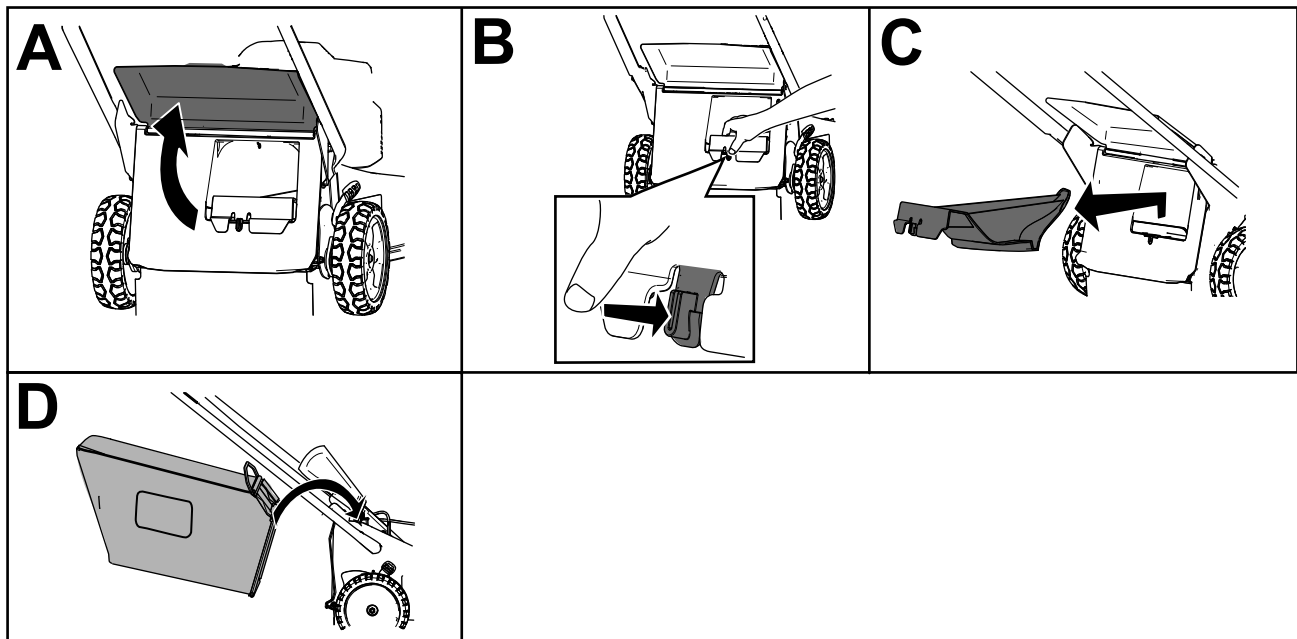

Figure 16
2. Raise and hold up the rear deflector (A of Figure 16).
3. Remove the rear-discharge plug by pushing in the latch with your thumb and pulling the plug out from the machine (B and C of Figure 16).
4. Install the bag-rod ends into the notches at the base of the handle, and rock the bag back and forth to ensure that the bag-rod ends are seated at the bottom of both notches (D of Figure 16).
3. Remove the bag rod on the grass bag from the notches at the base of the handle (A of Figure 16).
4. Install the discharge plug (B of Figure 16).
5. Lower the rear deflector (C of Figure 16).